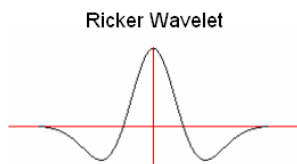

Figure 1: Ricker Wavelet²
- Convolve (multiply) the reflection coefficient with the Ricker Wavelet (Figure 1), a zero phase wavelet.